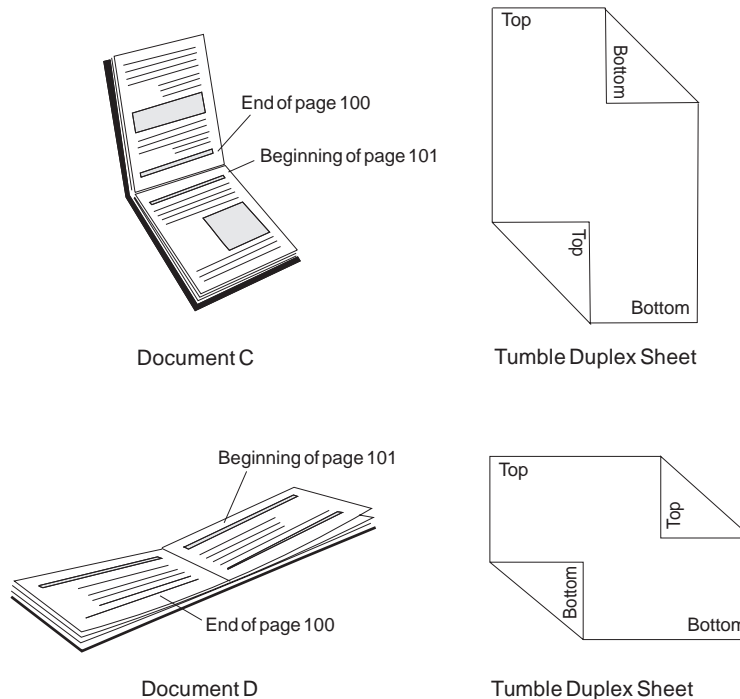

Figure 29. Duplex Documents C and D Specified as Tumble Duplex
- If the sheets are to be bound on the short edge of the paper, as Document C and Document D are in Figure 29 on page 76, specify *tumble duplex*.
Figure 29 on page 76 shows Document C and Document D printed with tumble duplex. Notice that the pages are printed in the *portrait position* for Document C and in the *landscape position* for Document D.